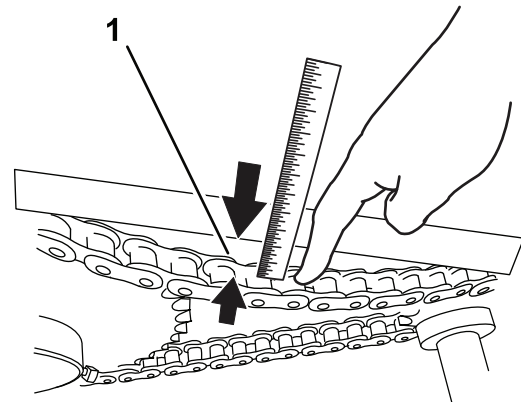

Figure 42
2. Place a straightedge along the chain from 1 sprocket to the other (Figure 42).
3. With your finger, push on the chain with 6.8 kg (15 lb) of pressure, midway between the sprockets (Figure 42).